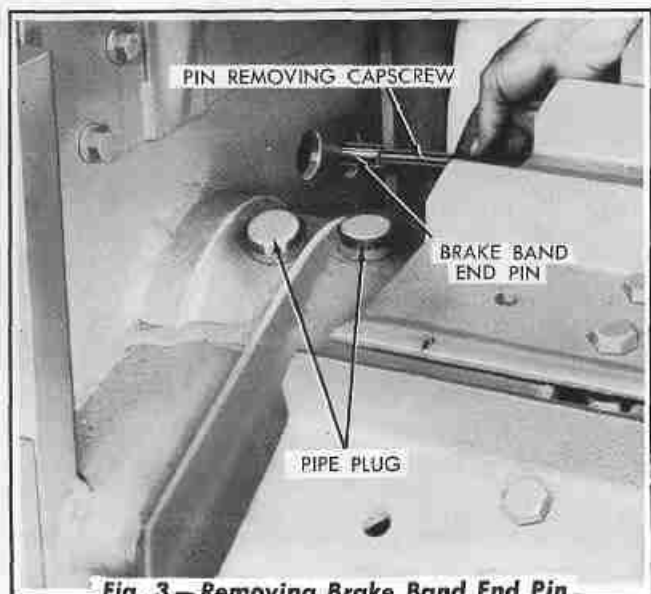

Fig. 3 - Removing Brake Band End Pin
6. Remove the yoke pin connecting the rear end of the brake control rod to the brake band lever. Remove the pipe plug located in the side of the steering clutch housing, in line with the brake band end pin which is located in the brake band adjusting yoke. Using a suitable $\frac{3}{8}$ " NC capscrew inserted through the hole, turn the capscrew into the tapped hole in the end of the brake band end pin. Pull out on the capscrew and remove the brake band end pin as shown in Fig. 3.